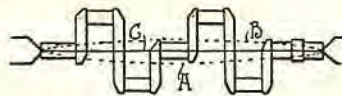

Fig. 34. Bent crankshaft.
The shaft is bent as indicated by the dotted line (A) (Fig. 34), only to a very much less extent, the bend not being visible to the naked eye except when the shaft is revolving in a lathe with a tool or other object held stationary, close to the center bearing surface or crank pin.
Assuming that the shaft is bent as indicated by the dotted line (A) (Fig. 34), it is pried up with the bar till it assumes the position indicated by the dotted line (B), and while held in this position, an assistant holding a piece of brass (M) on the bearing surface with one hand, and with a hammer in the other, strikes the shaft a sharp light blow.